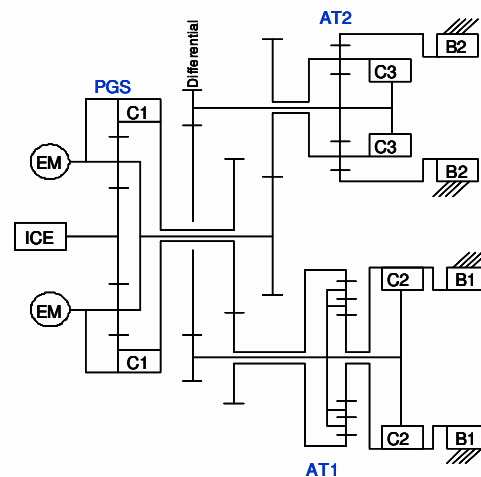

Figure 3: Transmission Concept
Based on these simulation results FEV developed a new Automatic Transmission (AT) (Figure 3). This concept is an innovative 7-speed hybrid transmission for transverse installation. The AT is based on three planetary gear sets (PGS). The first PGS is coupled with the internal combustion engine (ICE) and the E-motor (EM). To achieve the required 7 speed AT two additional planetary gear sets (AT1 and AT2) are coupled with the differential. This alignment of the planetary gear sets, the E-Motor and ICE